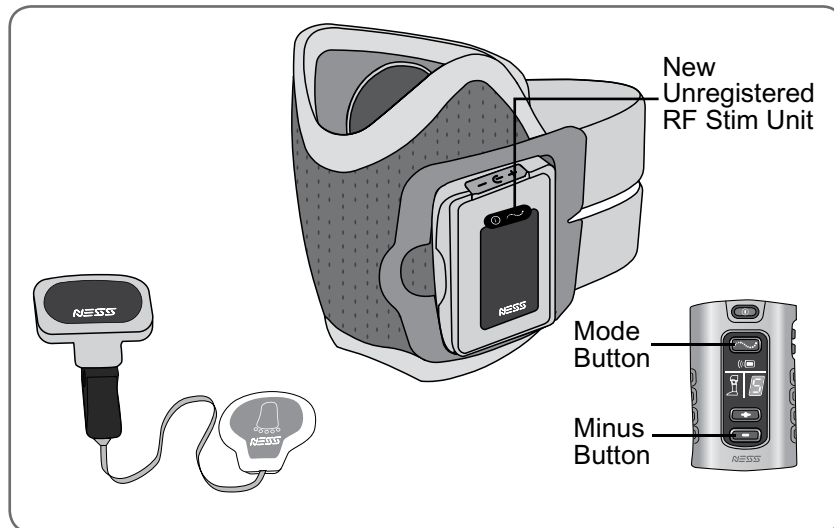

Figure 9-5: Registering a new RF Stim Unit.
2. Simultaneously press and hold for three seconds the  mode and  minus buttons on the Control Unit. The Control Unit will beep when registration begins. See Figure 9-5.